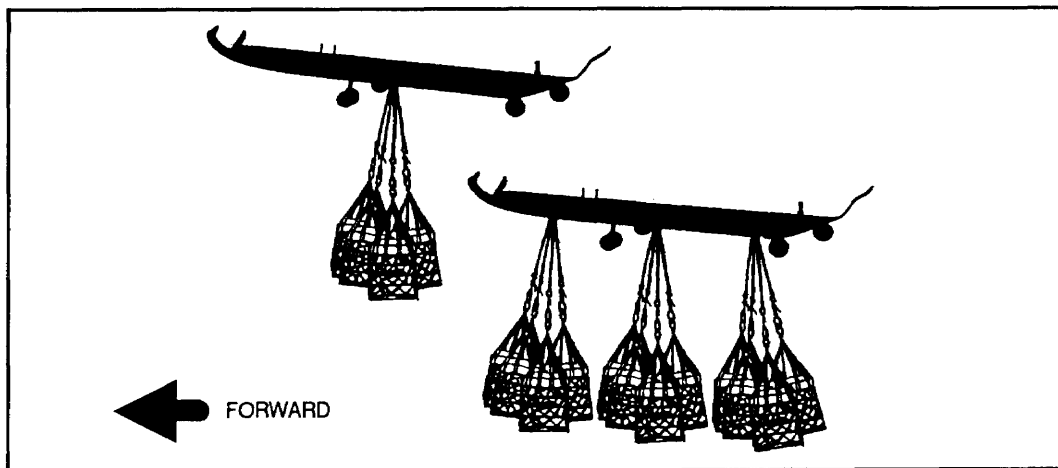

Figure I-8. Typical sling combinations.
(3) *Typical sling combinations.* A typical mixed load can be rigged using more than one 5,000-pound capacity net. Each 5,000-pound cargo net apex ring is connected to one leg of the 25,000-pound cargo sling to make up a mixed sling load. If a 10,000-pound cargo net is used, two sling legs from a 25,000-pound sling set may need to be used. When using an aircraft equipped with multiple cargo hooks, several combinations of slings and nets can be used depending on the situation (Figure I-8).